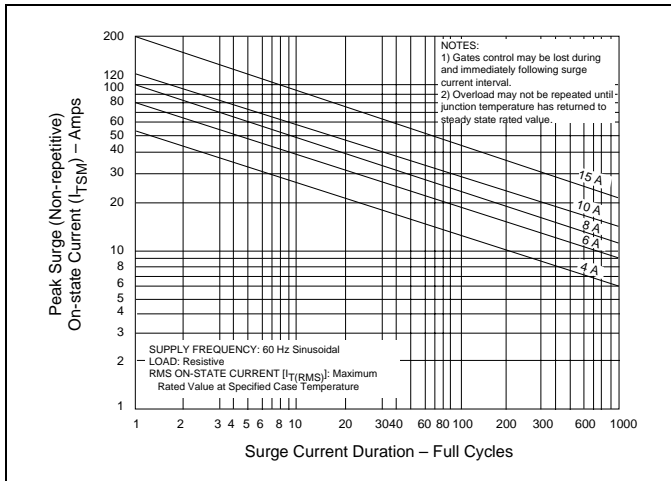

Figure E3.9 Peak Surge Current versus Surge Current Duration
- (4) See Figure E3.9 for surge ratings with specific durations.